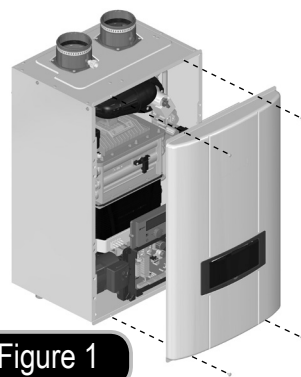

Figure 1
2. Use a hand screwdriver to remove the 4 screws for the front cover. See Figure 1.